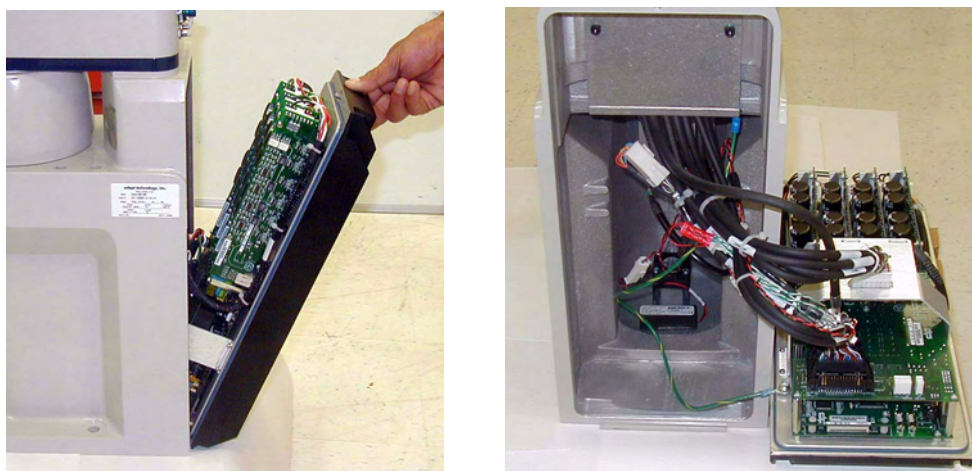
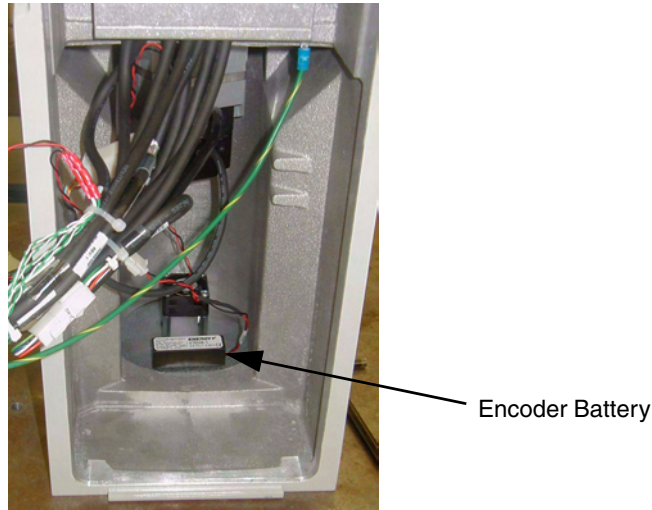

Figure 7-3. Opening and Removing AIB Chassis
Figure 7-7. Location of Encoder Battery
10. While holding the chassis heat sink, carefully and slowly lower the chassis down (see Figure 7-3 on page 100), so that enough access is available to remove the internal cables. The chassis can be laid flat or placed to the right side of the robot for better access.
8. While holding the chassis heat sink, carefully and slowly lower the chassis down (see Figure 7-3 on page 100), so there is access to the battery. See Figure 7-7.